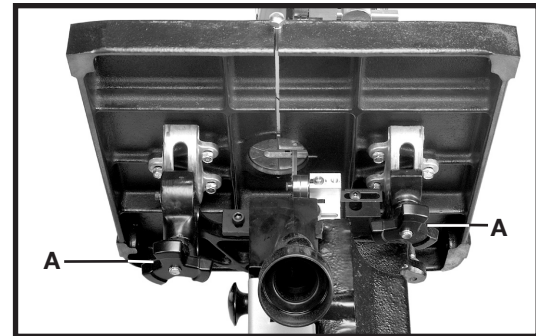

Fig. 20
1. The table on the machine can be tilted 45 degrees to the right and 10 degrees to the left. To tilt the table to the right, loosen the two locking knobs (A) Fig. 20, tilt the table to the desired angle, then re-tighten two locking knobs (A).
2. To tilt the table to the left, loosen the two locking knobs (A) Fig. 20, and tilt the table to the right until the table stop (A) Fig. 21 is accessible. Remove the table stop (A) Fig. 21, and tilt the table to the left. Tighten the two locking knobs (A) Fig. 20.